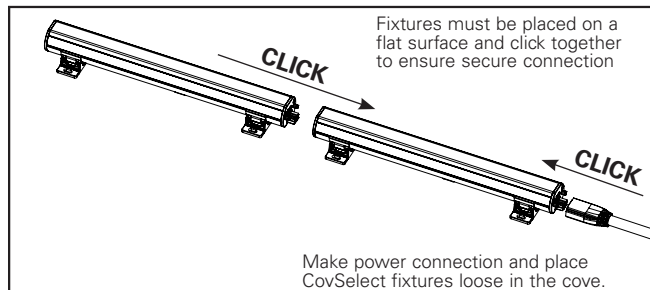

Figure 6
- Make beginning of run power connection as shown in Figure 6 and place CovSelect fixtures loose on flat surface of cove until run is completed.
- Fixtures must be placed on a flat surface before connecting them together. Connect fixtures together along run. Fixtures must **CLICK** together to ensure secure connection of fixtures along the run (see Figure 6). After each fixture connection is completed, fixture mounts must be secured to the solid surface (Figure 7) using appropriate screws (by others) before connecting the next fixture in the run.